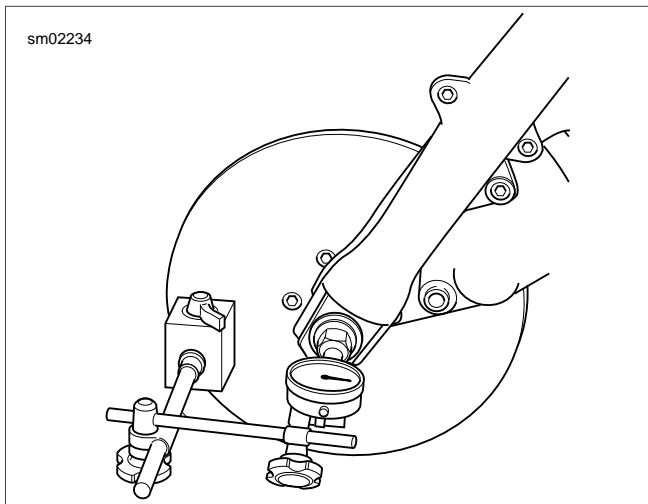

Figure 2-13. Wheel Bearing Inspection (Front Wheel Shown)
3. See Figure 2-13. Mount a magnetic base dial indicator to the brake disc with the dial contact point on the end of the axle.